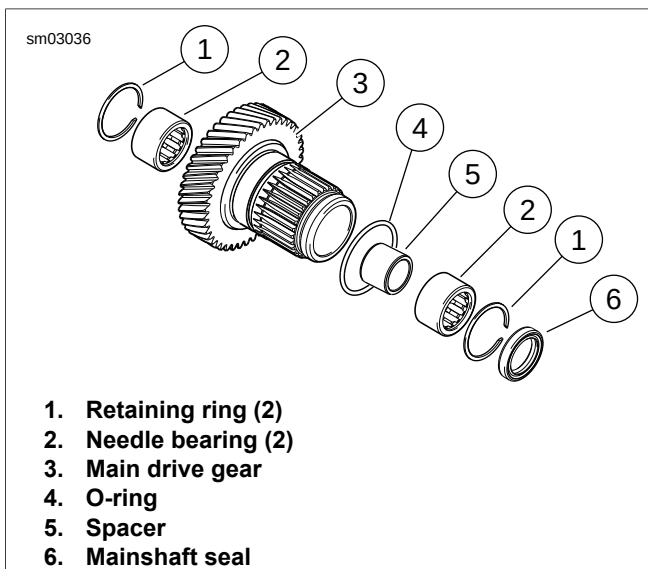

Figure 6-37. Main Drive Gear Assembly
1. See Figure 6-37. Remove mainshaft seal (6). Remove retaining rings (1), needle bearings (2) and spacer (5) from main drive gear (3). Discard retaining rings.
2. Remove and discard O-ring (4).
7. See Figure 6-37. Install **new** retaining rings (1).
8. Install **new** O-ring (4) into groove in main drive gear.